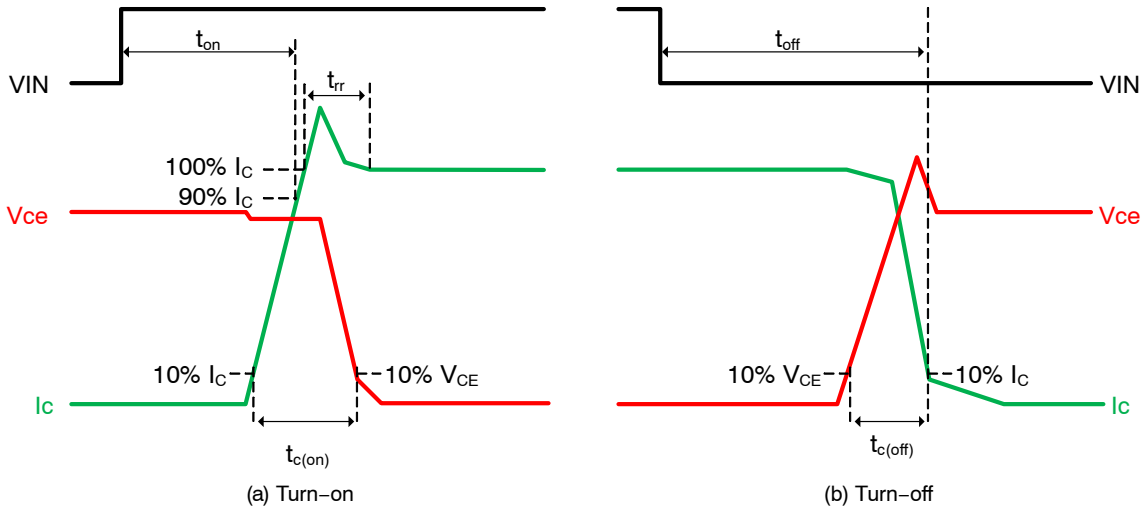
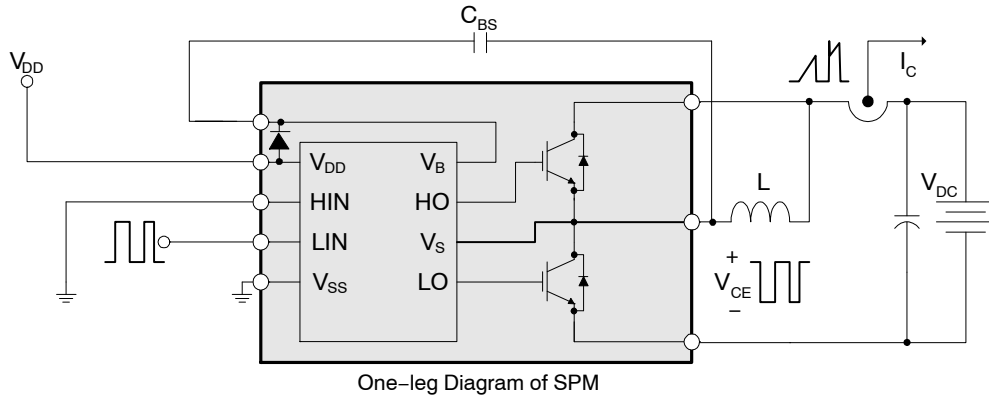

Figure 6. Switching Time Definitions
Figure 7. Switching and RBSOA (Single-pulse) Test Circuit (Low-side)
6.  $t_{ON}$  and  $t_{OFF}$  include the propagation delay time of the internal driver IC. Listed values are measured at the laboratory test condition, and they can be different according to the field applications due to the effect of different printed circuit boards and wirings. Please see Figure 6 for the switching time definition with the switching test circuit of Figure 7.
7. The peak current and voltage of each IGBT during the switching operation should be included in the Safe Operating Area (SOA). Please see Figure 7 for the RBSOA test circuit that is same as the switching test circuit.